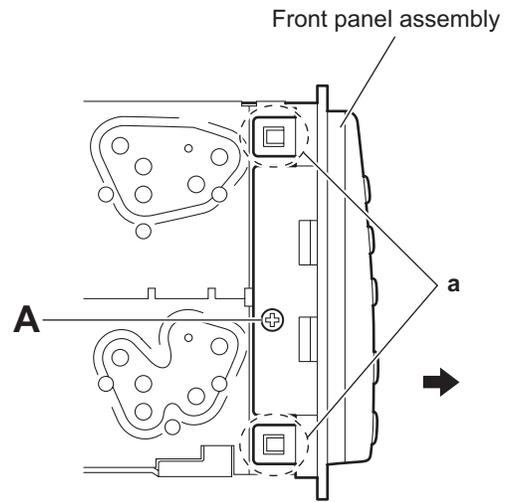

Fig.1
#### 3.1.1 Removing the front panel assembly (See Figs.1 and 2)
- (1) From the both side of the main body, remove the two screws **A** attaching the front panel assembly. (See Figs.1 and 2.)
- (2) Release the four joints **a** and remove the front panel assembly in the direction of the arrow. (See Figs.1 and 2.)